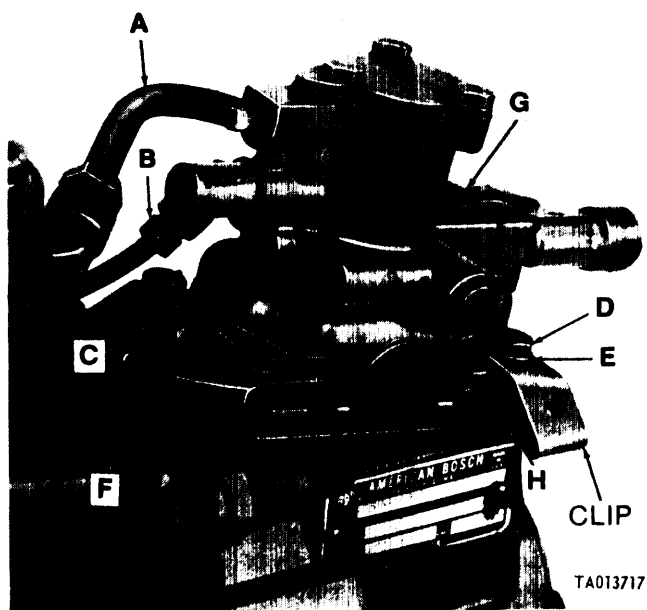

Figure 3-8. Removing fuel density compensator (code A, B, C, D, E and late code F pumps).
(2) *Code A, B, C, D, E and late F injection pumps.* Refer to figure 3-8. Remove tube assembly (A) from tee and from elbow in hydraulic head. Disconnect tubing (B) from elbow. Remove and discard locking wire and seal (C). Remove four capscrews (D), lockwashers (E), tamper proof cover (F) and clip securing compensator to governor housing. Tap fuel density compensator (G) with a soft hammer to break gasket seal and remove fuel density compensator assembly (G) and gasket (H) from governor housing. Discard gasket and retain compensator assembly for possible repair.